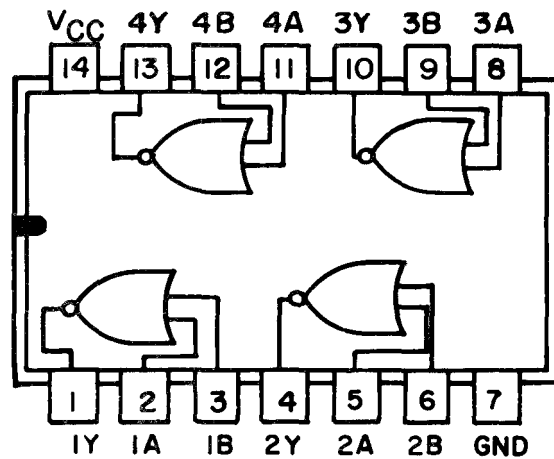

Figure 1-34. Quad 2-Input NOR Gate.
8. *Quad 2-Input NOR Gate (SN5402)*. If one or both inputs of a single gate (fig. 1-34) are at the 1 level, the output is at the 0